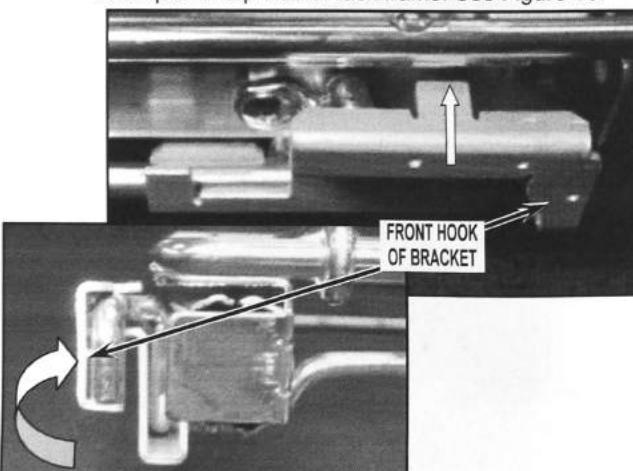

FIGURE 13
- Hold bracket in upward position, push bracket inward to snap over top side of rack frame. See *Figure 13*.
IMPORTANT: Do not roll the channel locks over the tab when bending as it may damage the part. When closing the tab at the front, it may flair out the front hook of the bracket, crimp back into place if needed. See *Figures 13 and 14*.